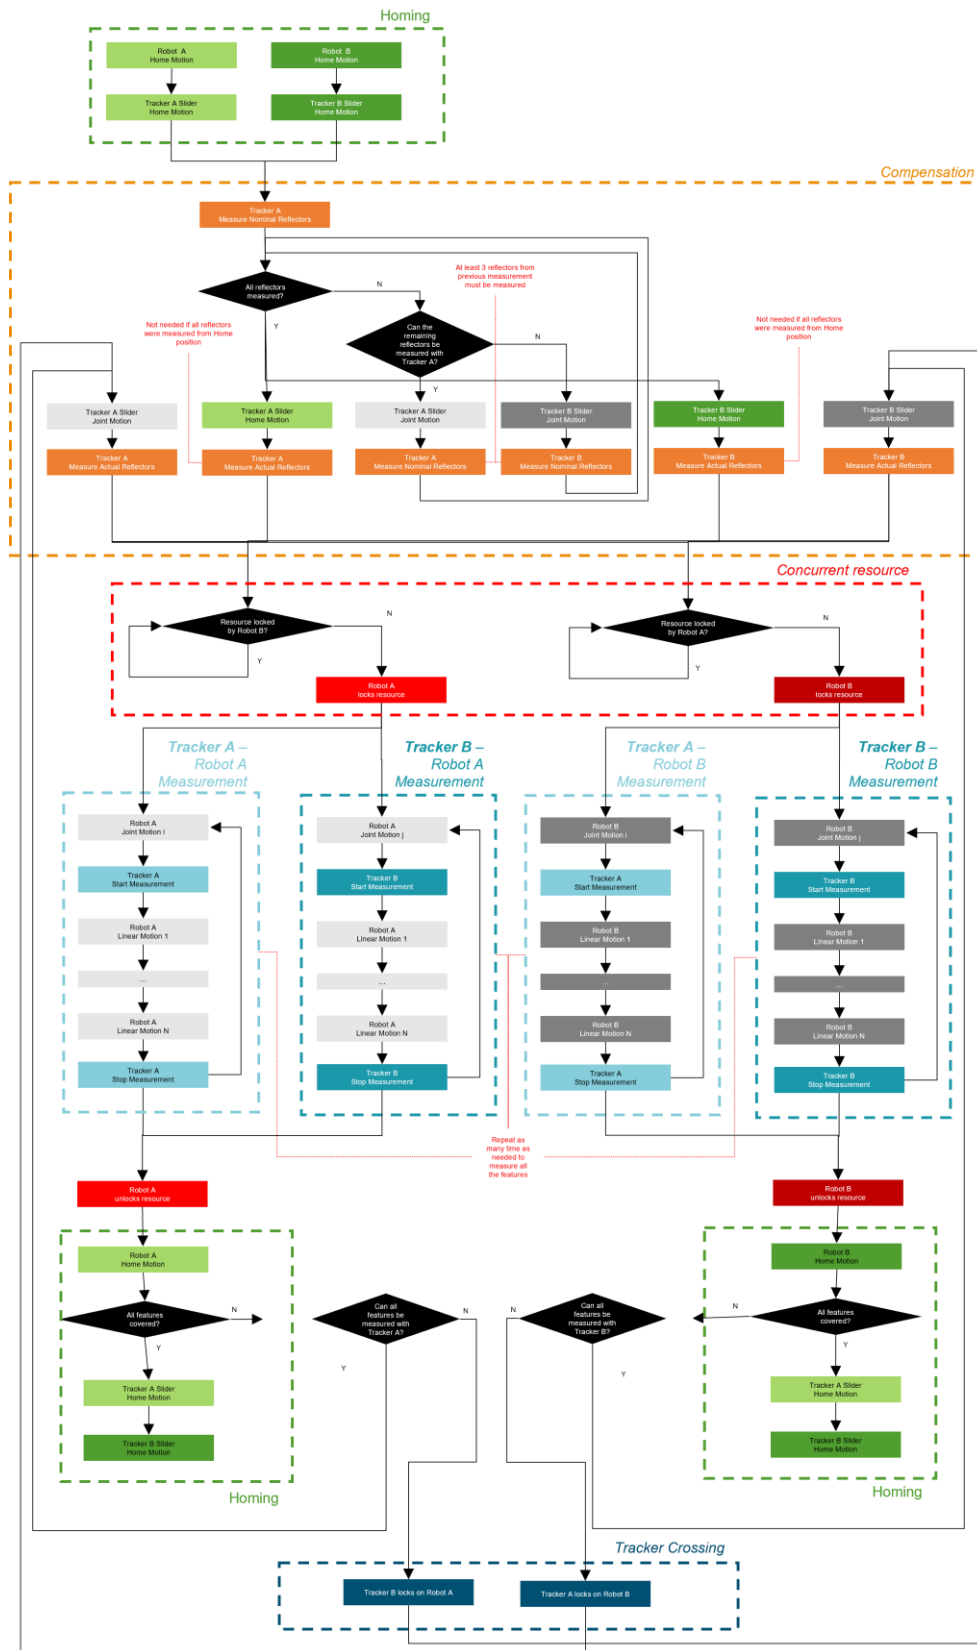

Figure 7-8: Complete dual robot cell programming workflow using two robots and two trackers
The general program workflow for a parallel execution program is described in **Figure 7-8** and contain the following main steps:
- 1) Send all robots and sliders to “Home” position (may be in parallel) as depicted in **Figure 7-7** and **Figure 7-8**.
- 4) There might be situations when both robots running in parallel are only allowed to use the same tracker (the second is unreachable). A tracker can lock only on a face of the scanner mounted on the robot. E.g., when Tracker A is locked on a face of Robot A scanner, Robot B must wait for Robot A to complete its task, before Tracker A could lock on a face of Robot B scanner. For this situation, the tracker crossing functionality is needed as described in chapter 7.14.5.3. The flowchart depicted in **Figure 7-7** shows a workflow that includes only the measurement parts using Robot A together with either Tracker A or Tracker B. A workflow containing both robot measurement routines have two additional measurement branches relative to **Tracker B – Robot B** and **Tracker A – Robot B** which are exactly the same as the one described in Robot A measurement branches as depicted in **Figure 7-8**.
- 5) Whenever the measurement branches of Robot A and Robot B must inspect an interference zone, the concurrent resource usage functionality must be used as described in chapter 7.14.5.4 and depicted in **Figure 7-8**.
- 6) Send all robots and sliders to “Home” position (may be in parallel) as depicted in **Figure 7-7** and **Figure 7-8**.